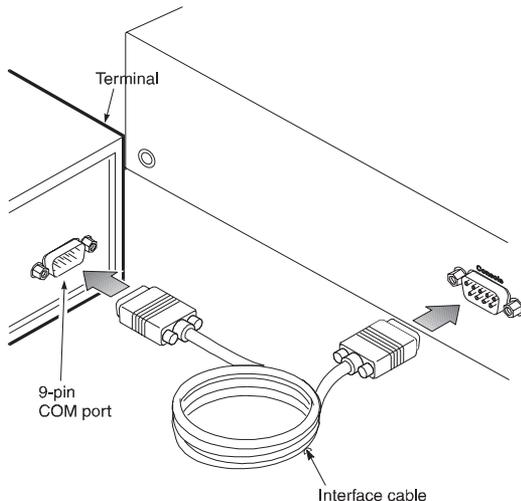

Figure 2-2. Connecting a Terminal to the Console Port
1. Connect a VT100 compatible terminal or a PC running a terminal emulation program to the console port (Figure 2-2). Use the null-modem cable provided with the switch, or use a null-modem connection that is compatible with the console port pin assignments shown in Appendix A.